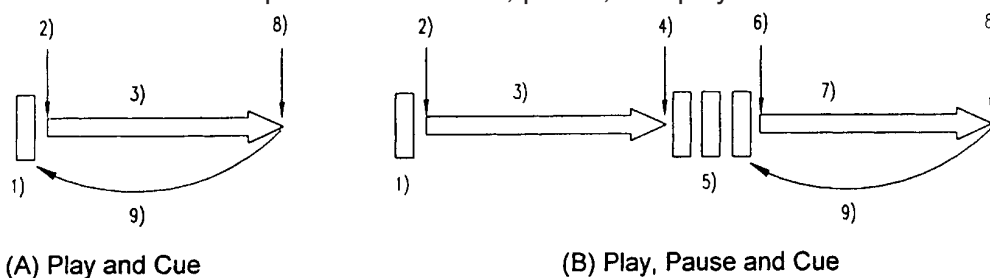

Figure 13
- Figure 13 shows the relationship between the play and back cue operations.
- There are two (2) ways to set a CUE point:
- Figure 13 shows the relationship between the cue, pause, and play.